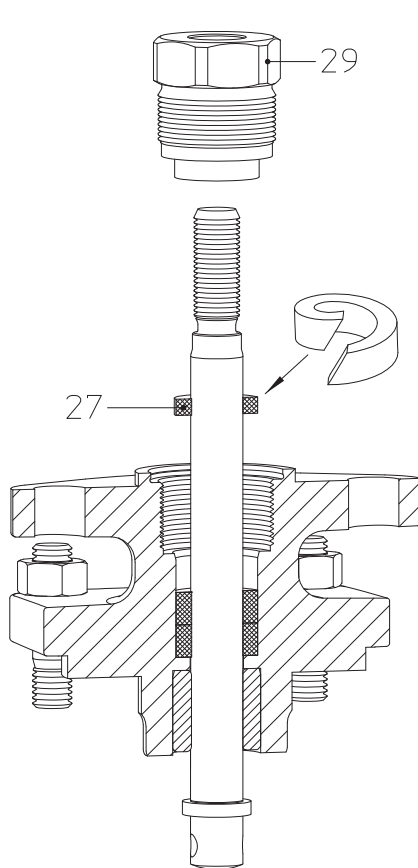
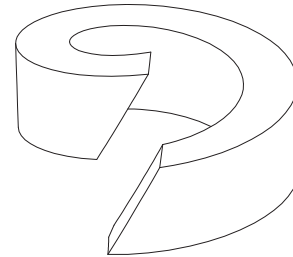

Fig. 13: Stuffing box packing DN15-100
Fig. 16: split packing ring
- Insert new packing ring (pos. 27) as shown in Fig. 13 - Fig. 16.
If a split packing ring is used, cut with a chamfer as shown in Fig. 16.